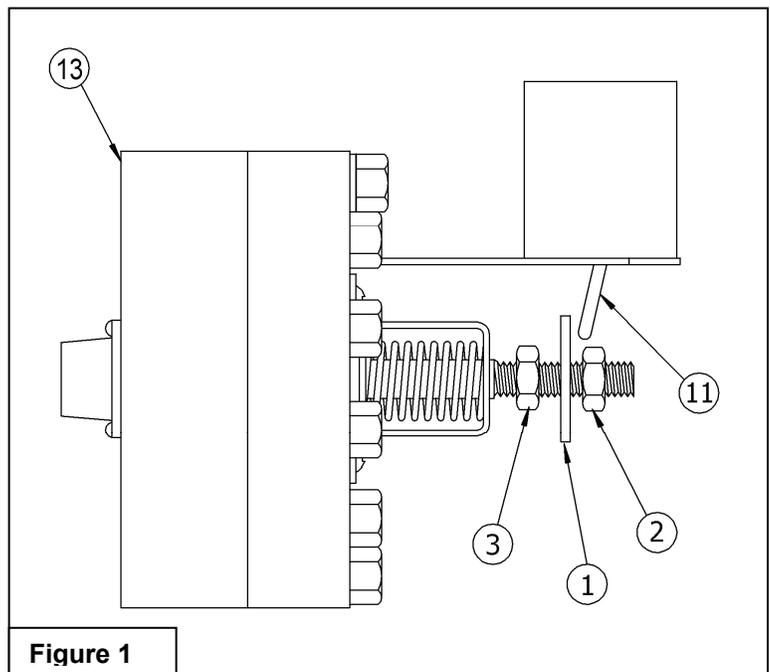

Figure 2
1. Remove the tubing to port (5) and apply air or gas (500 PSI maximum) to move the diaphragm stem (10) to its maximum travel as shown in Figure 2.
2. Advance the Lock Nut (3) and Actuating Washer (1) until the Toggle Valve Lever (11) snaps over center. Move the Locknut (3) and Actuating Washer (1) and additional 1/8" (3 millimeters) to insure that the Toggle Lever (11) will completely trip.
3. Run Lock Nut (2) up against the Actuating Washer (1) and tighten the Locknuts.